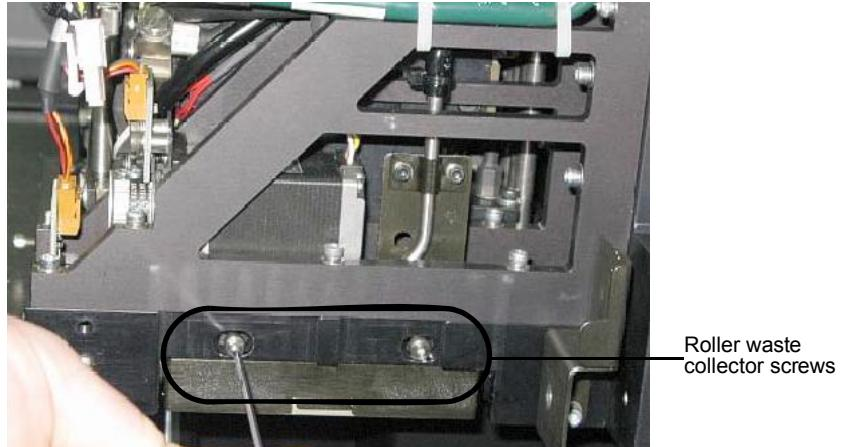

Figure 6-30: Removing the roller waste collector covering
7. Return the roller waste collector to the print block and screw on the covering (see figure 6-30 on page 6-28).